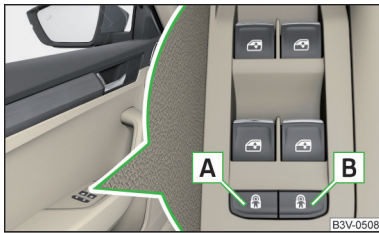

Fig. 54
- To **switch on/off** the child safety lock in the **left** rear door, press the button **A** in the driver's door » Fig. 54.